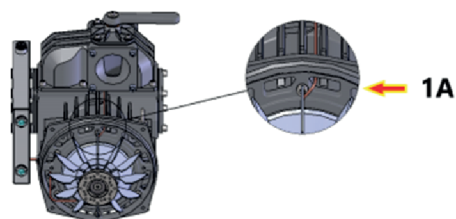

Fig. H.20 - Phase 0060 - part 2
- Straighten the oil pipe on the front bearing side (**pos.1A Fig. H.20**) (only the 90° bend) so that it can be removed from the flange slot.